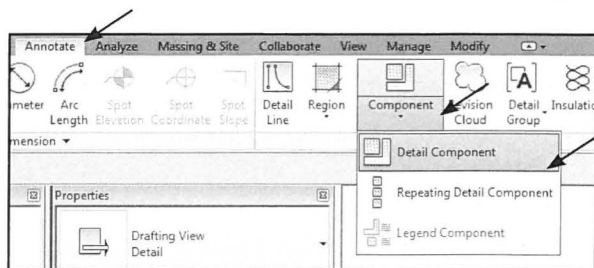

Fig. 15.50. *Annotate - Component - Detail Component*.
- Klik *Annotate* - dropdown under *Component* - *Detail Component* (Fig. 15.50).